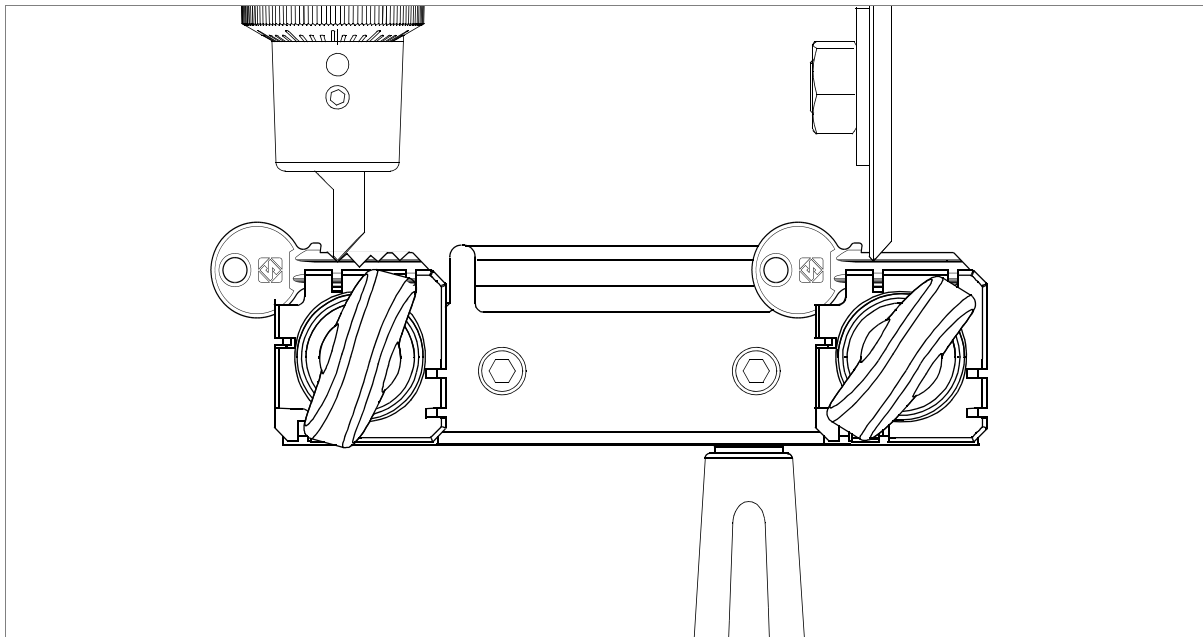

Fig. 32
- 3) Take the carriage towards the tracer point/cutter (fig. 32).
- 5) Turn off the machine with witch (U) before removing the duplicated key.
- 7) Turn on the machine with switch (U) and smooth off the key edges by means of the brush (P).